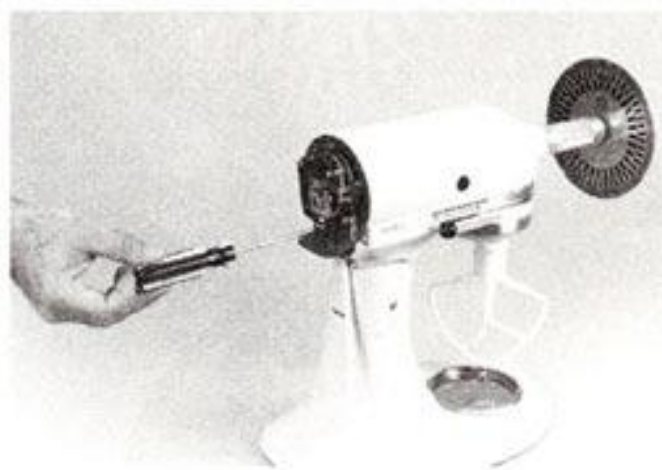

Fig. 79
- E. Move the switch lever to speed #6. At this setting, the planetary must turn 180 revolutions per minute. Check the speed as was done for 1st speed. The planetary should touch your finger 15 times in 5 seconds. If it touches the finger less than that, turn the adjusting screw at bottom of the control plate (Fig. 79).